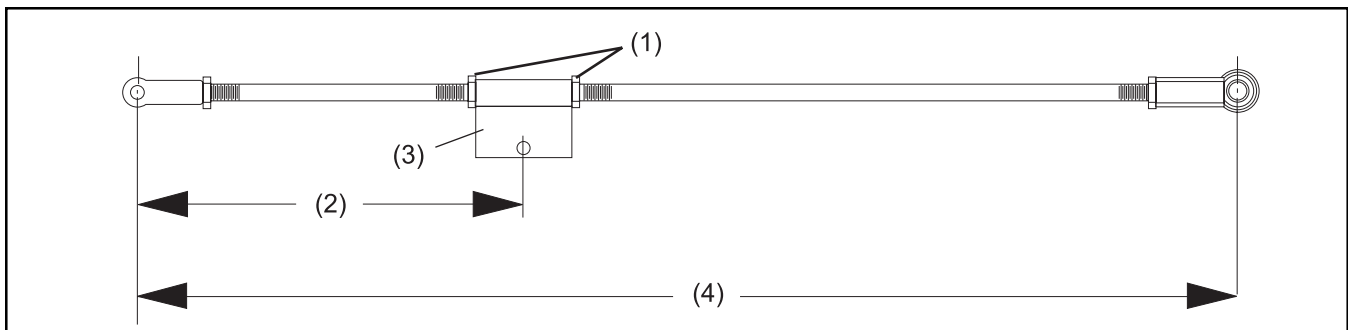

Figure 4. Note Measurement for Reinstallation
- i. Measure the overall length between centers of the turnbuckle and clevis. Refer to *Figure 4*. **Note this measurement for future use!** Manufacturer's set length is 28.37" from center to center but this length may have been altered during initial installation of components.
(2) 10" MINIMUM
(3) DRIVE YOKE
- j. Loosen the jam nuts on both sides of the black drive yoke that attaches the drive link to the motor sleeve. Refer to *Figure 4*.
- k. Thread the short rod into the yoke to reduce the distance between centers of the yoke and the clevis end of linkage. Refer to *Figure 4*.